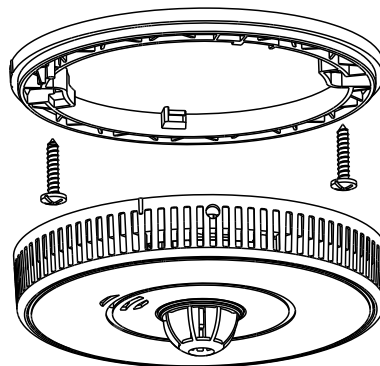

Fig. 5 – Fixing the heat alarm base
6. Attach the bracket to the ceiling with the screws supplied (see Fig.5).